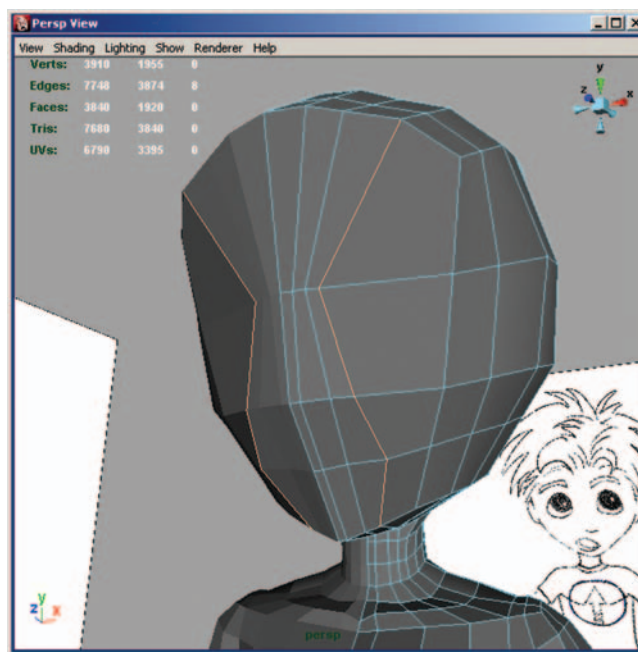

FIGURE 6-60 Shaping the face.
6. As you refine the new polygons, you want to start forming the outline of the nose, eyes, and mouth. The edges indicated in Figure 6-60 form a line that travels from the outside of the mouth, to the outside of the nose, and then to the inside of the eyes.